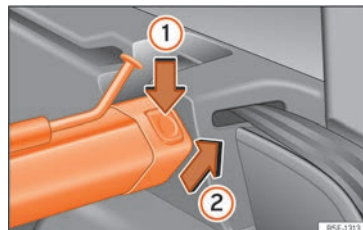

Fig. 142 In the luggage compartment: removing the net partition.
- Press the left or right release catch »» Fig. 142 in the direction of the arrow ①.
- Remove the casing from the support in the direction of the arrow »» Fig. 142 ②.
- Press the casing into the left and right supports in the opposite direction to the arrow »» Fig. 142 ② until it engages.